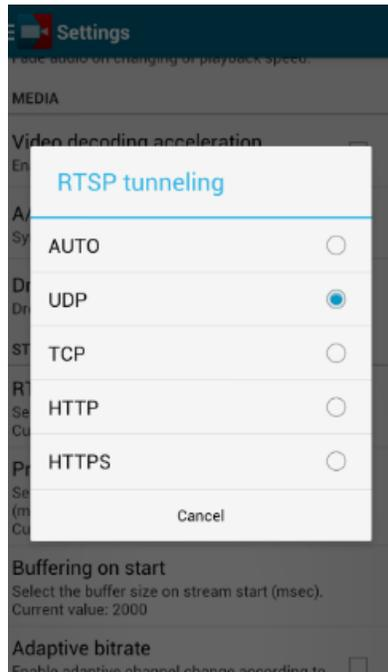

Figure 21. RTSP Tunneling Settings
8. Select UDP under STREAMS -> RTSP tunneling, as shown in Figure 21.